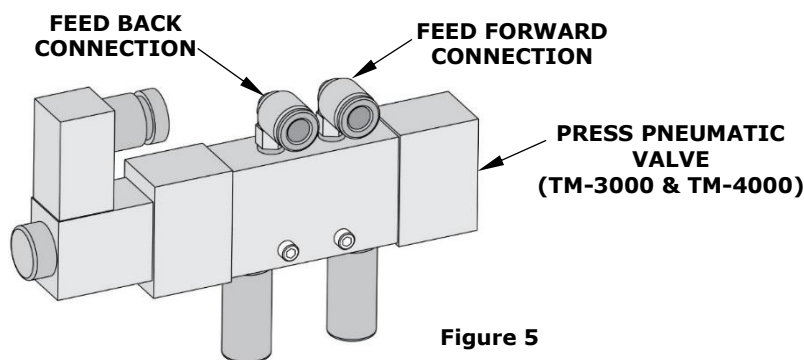

Figure 5
- When using the TM-3000 or TM-4000 presses, connect the tubes to the press pneumatic valve as shown in Figure 5.